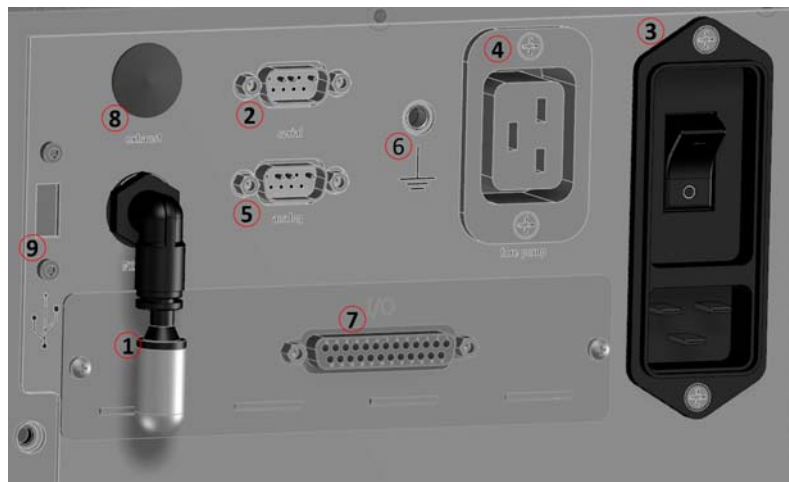

Figure 1-21 Rear Panel (with Discrete I/O PCB)
| ② Cover Plate or I/O PCB | <p>Access to expansion slot. This is not used when an optional I/O PCB is installed. A rear panel of the optional I/O PCB is shown in Figure 1-21 on page 49.</p> |
The rear panel of the leak detector (Model G8610A and G8610B) is shown in Figure 1-21.